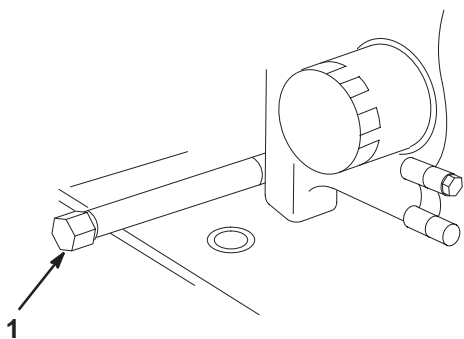

Figure 25
3. Place a pan below the oil drain. Remove the oil drain cap (Fig. 25).